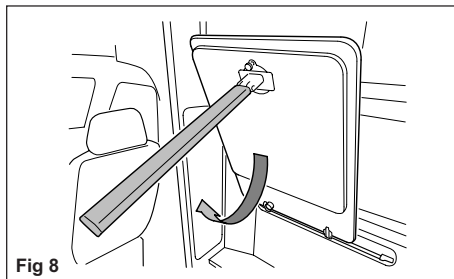

Fig 8
- Release the leg and lock into the down position and lower the table (Fig 8).